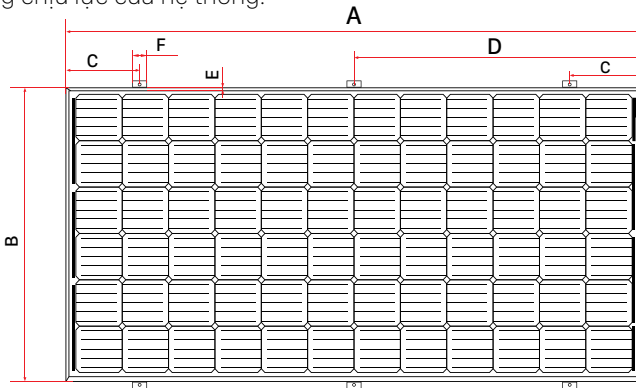

Figure 6. Position of clamp in PV modules/ Vị trí của kẹp trên module PV
- In case of heavy snowfall, relatively large snow load or large wind pressure exist in the module installation area, IREX suggests the customer to select the 5400 Pa strengthening installation scheme to clamp and fix the module (as shown in figure 6) to improve the bearing capacity of the module for static snow load at front side and dynamic wind pressure at back side, and enhance the system capacity.